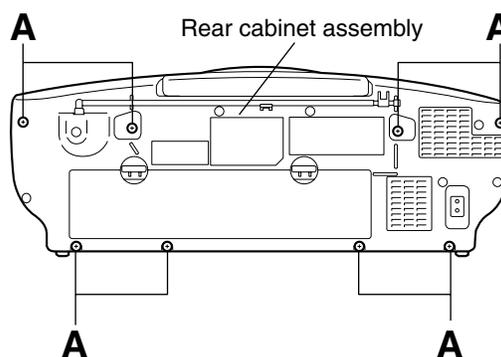

Fig.2
■ Removing the front cabinet assembly and rear cabinet assembly (See Figs. 2 to 5.)
1. Remove the eight screws **A** retaining the front cabinet and rear cabinet assemblies from the rear of the main body. (See Fig.2.)